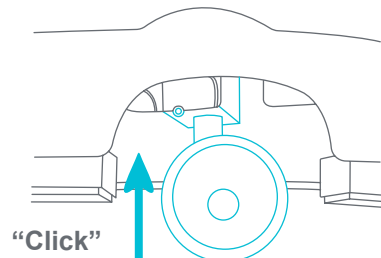

Fig. 6c
- Push the wheel upward until it clicks into the base (Fig. 6c). Repeat for the other side.